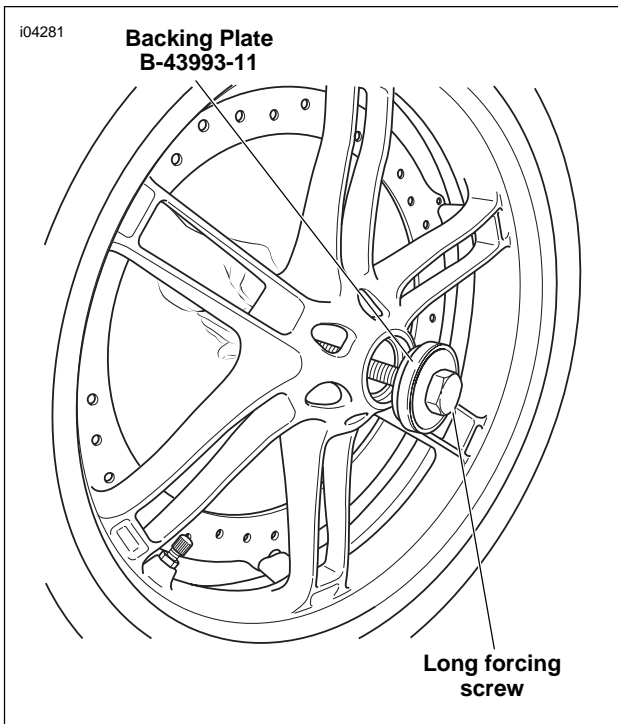

Figure 2-13. Install the Backing Plate (B-43993-11) and Forcing Screw
1. See Figure 2-13. Install the Backing Plate (B-43993-11) onto the long forcing screw from the Wheel Bearing Installer/Remover (HD-44060), with the smaller diameter toward the wheel hub. Insert the forcing screw and backing plate into the wheel hub.